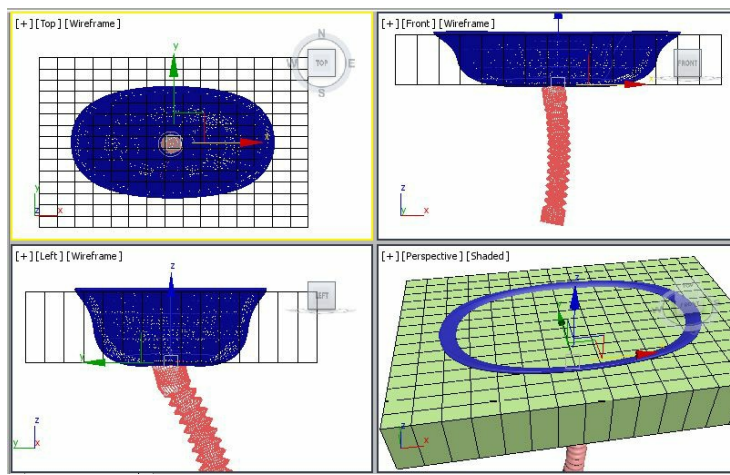

Figure 10-72 The washbasin slab created and aligned in viewports
- Modify the name of the box to *washbasin slab* and align it, as shown in Figure 10-72.